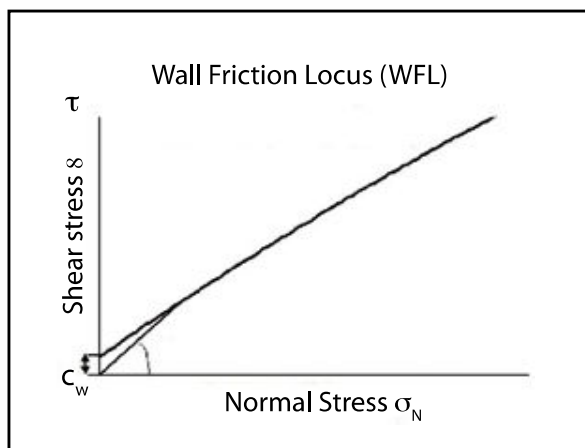
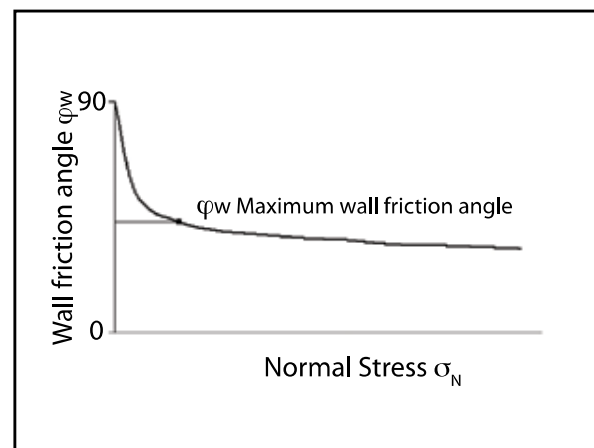

Figure A-8a: Wall friction locus
Figure A-8b: Wall friction function
While the results of the wall friction test can be displayed graphically in the form of a wall friction locus as shown in Figure A-8a (representing the limiting shear stress the powder can support at a wall), or the form of a wall friction angle function as shown in Figure A-8b (representing how the wall friction angle changes with reducing stress), one of the following four flow indices derived from the maximum wall friction locus are usually adequate. These wall friction properties are:
- φ_w The maximum wall friction angle to determine the minimum chute angle for gravity flow (see Figure A-8b).
- c_w The wall cohesion shear stress in kPa that can be supported at the wall under zero normal stress (see Figure A-8a). This determines the 'stickiness', i.e. whether powder is likely to stick to wall surface under close to zero stress. i.e. will powder build up on the walls of the chutes around discharge/transfer points.